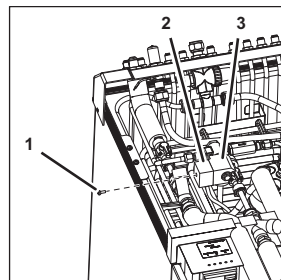

Figure 76
1. Disconnect the plug (Figure 76/2) of the solenoid valve (Figure 76/3) by removing the fastening bolt (Figure 76/1).
28. Attach the plug (Figure 76/2) of the solenoid valve (Figure 76/3) using the fastening bolt (Figure 76/1).